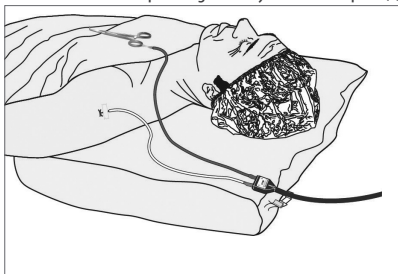

Figure 1
2. Place white STIM return needle subcutaneously and secure with tape (Figure 1).
1. Place white STIM return needle subcutaneously and secure with tape (Figure 1).